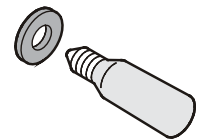

Figure 16
3. Remove the defective bulb. Make sure the seal (**Fig. 16**) is placed on the new bulb before installing it.